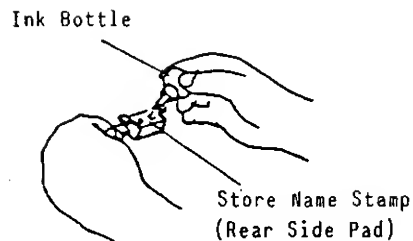

Fig. 21
5. Apply ink on the pad on the rear side of the Store Name Stamp. The amount of the refiling should be adjusted according to the density of the printed message, but the limit of 2 c.c. should not be exceeded. (The ink bottle supplied contains 5 c.c. of ink.) (Fig. 21)